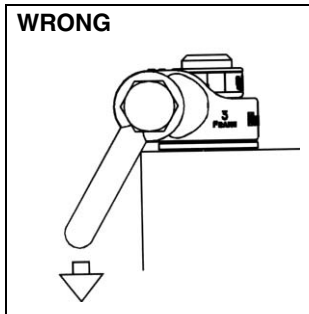
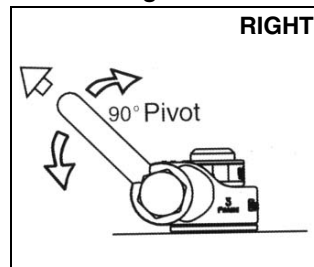
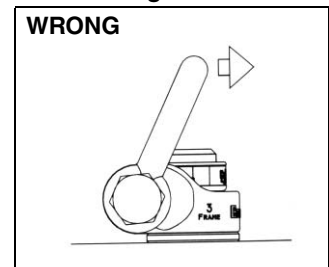

Figure 1
Figure 3
Figure 4
- Attach lifting device ensuring free fit to hoist shackle (See Figure 3).
- Apply partial load and check proper rotation and alignment of shackle. There should be no interference between load (work piece) and hoist shackle (See Figure 1 and Figure 3).
- The Hoist ring should rotate into normal operating position, with shackle aligned with load as shown in Figure 3. If shackle is oriented as shown in Figure 4, **DO NOT LIFT.**
- ASTM A-563 (A) Grade D Hex Thick (B) Grade DH Standard Hex
- Always ensure free movement of shackle. The shackle should pivot 90° and the hoist ring should swivel 360° (See Figure 3).